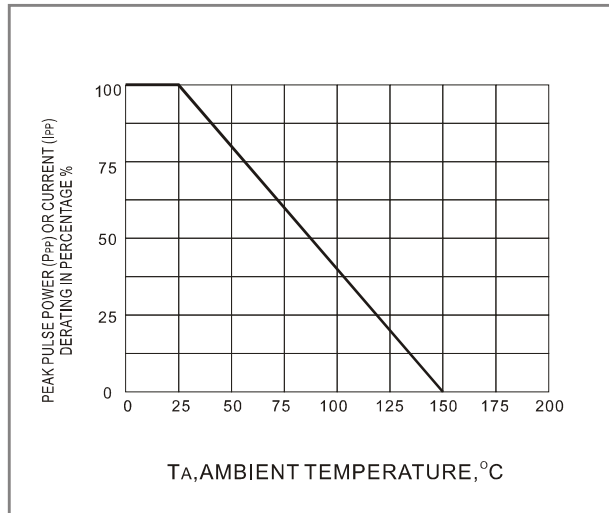

Fig.2 DERATING CURVE
1. Non-repetitive current pulse, per Fig.3 and derated above $T_A = 25^\circ\text{C}$ per Fig. 2.